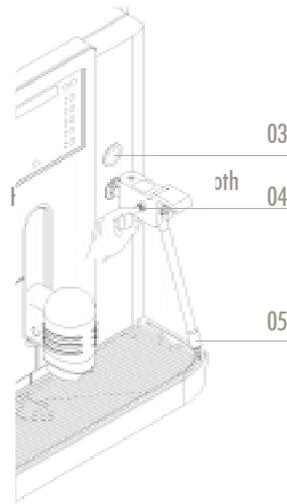

Figure 5
1. To froth milk, press the bolt (Fig. 5, pos. 04) to the right into the froth position. For hot milk, the bolt must be pressed to the left.
2. Press the STEAM KEY (Fig. 5, pos. 03) and wait a short time until the condensed water has run out. To stop the process, press the key again.